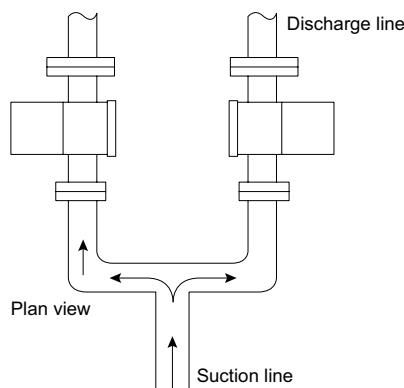

Fig. 12.1.1a Avoid common suction lines
- Take care with designing suction lifts and manifold/common suction lines for two positive displacement pumps running in parallel, as this may cause vibration or cavitation (see Fig. 12.1.1a). It is important to note that each pump have their own NPSH required value so NPSH available on a shared suction line requires sufficient availability on both pumps. Recommendation is to take both NPSH_r values for a total and add an additional 1 m lc margin to NPSH_a for suitable operation